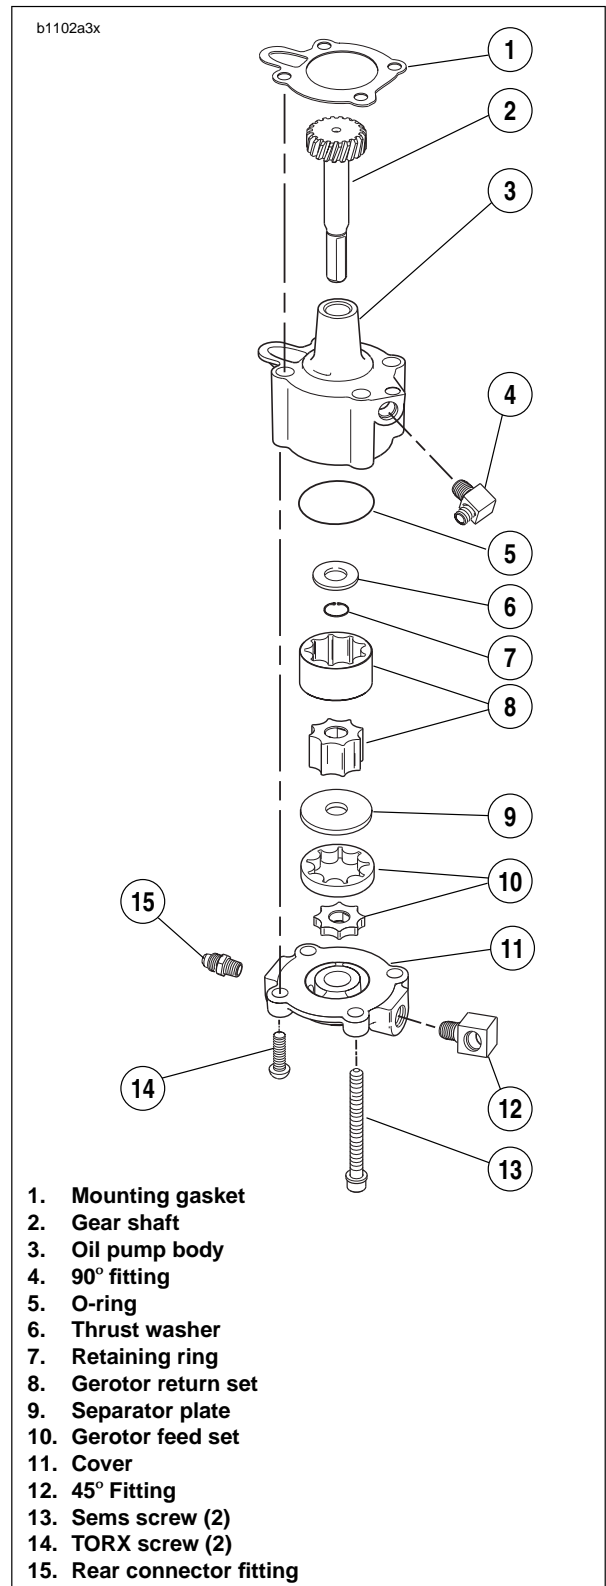
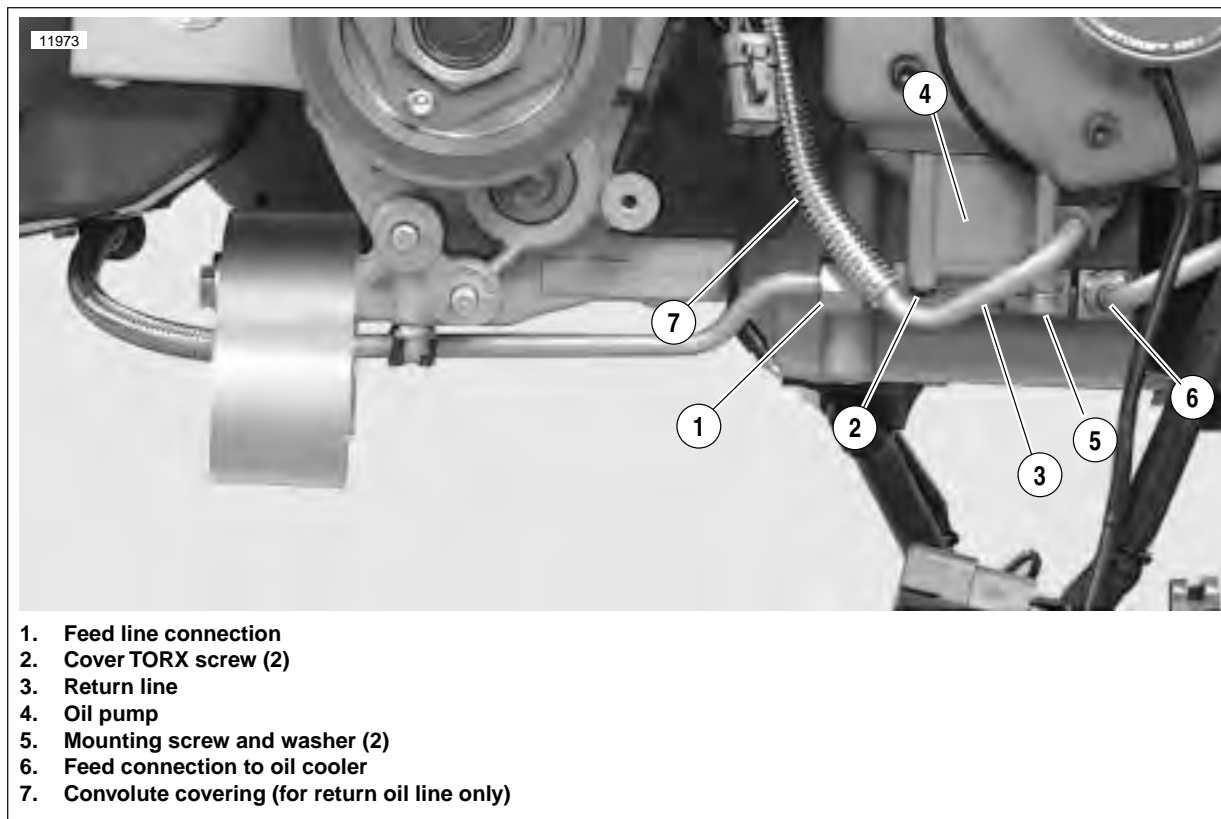
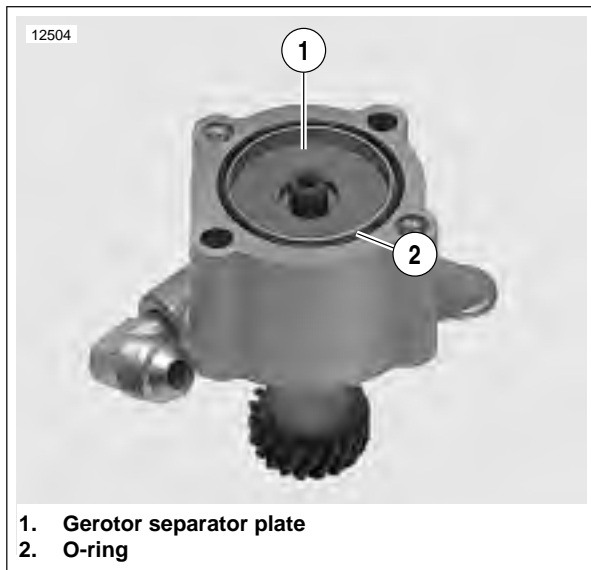

Figure 3-118. Oil Pump
Figure 3-119. Oil Pump Hardware
Figure 3-121. Oil Pump Separator Plate
See Figure 3-118. The oil pump consists of two gerotor gear sets, feed and return, housed in the gearcase cover. The feed set distributes oil to the engine, the scavenge set returns oil to the tank/swingarm reservoir.
4. See Figure 3-119. Disconnect feed line connections (1 & 6) on both sides of the oil pump.
5. Detach return line connection (3).
6. Carefully remove mounting screws (5) and washers only. Pump will drop with screws removed. Discard mounting gasket.
7. Remove cover TORX screws (2). Lift cover off body.
3. See Figure 3-118. Check gear shaft teeth for damage or wear. Replace if necessary.
1. See Figure 3-118. Install gear shaft through body. Position thrust washer over end of shaft. Install **new** retaining ring into groove in shaft.
4. See Figure 3-121. Install gerotor separator plate (1).
5. Install a **new** o-ring (2) into groove in pump body.
6. See Figure 3-118. Place gerotor feed set (10) over gear shaft.
7. Place cover (11) onto pump body (3). Install cover TORX screws (14). Tighten to 70-80 **in-lbs** (8-9 Nm).
8. Place **new** mounting gasket (1) in position.
9. Secure pump to crankcase with mounting screws (13). Tighten to 125-150 **in-lbs** (14-17 Nm).
10. See Figure 3-119. Attach return line connection (3) and tighten to 22-24 ft-lbs (29.8-32.5 Nm).
12. Tighten feed line connection (1) to 27-29 ft-lbs (36.6-39.3 Nm).
13. Tighten feed line connection (6) to 22-24 ft-lbs (29.8-32.5 Nm).